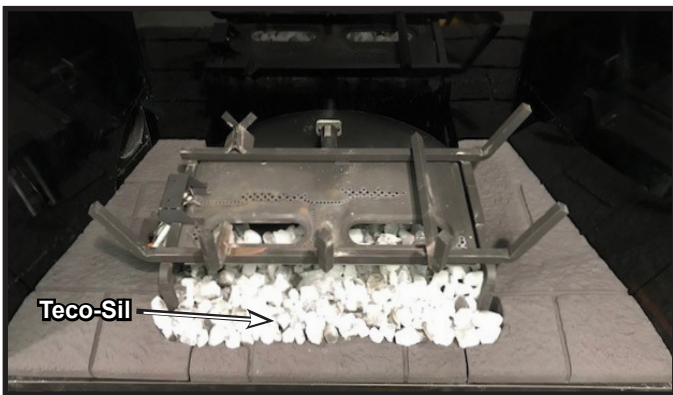

Figure 26 Teco-Sil installed
26. Install Teco-Sil. Turn ember lights on and fog Teco-Sil to desired coverage. See Figure 26.